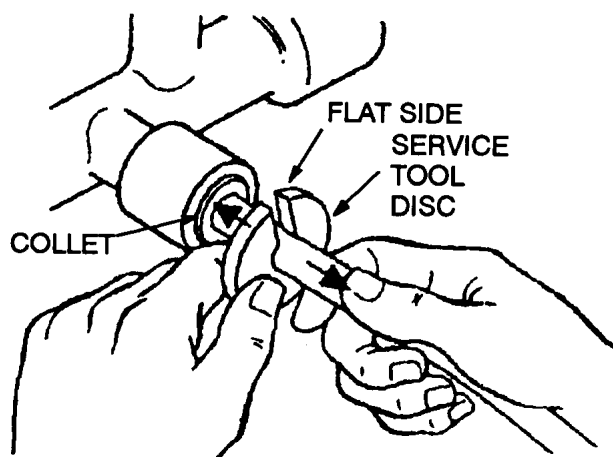

Figure 102 Tube Release Tool
4. Use the tube release tool (Figure 102) to remove the tube. Do this by placing it around the tube.